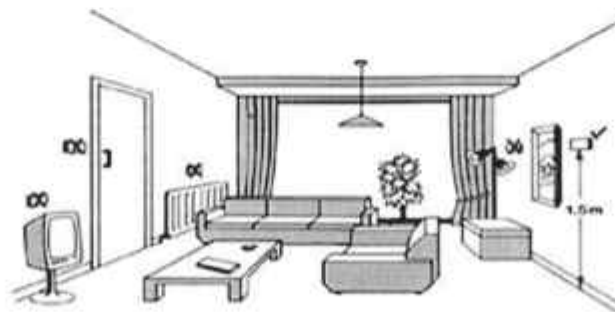

Figure 18 - Installation in a room thermostat or air temperature sensor.
5.4.2 It is better to install the temperature sensor in living quarters. Location of the sensor according to the recommendations - see Figure 18. It is not recommended to install the temperature sensor next to the climatic equipment, for drafts. Avoid direct sunlight on the sensor.